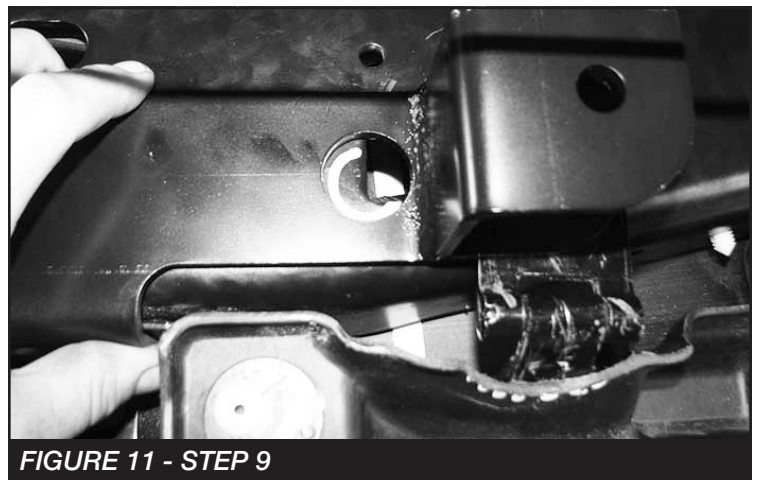
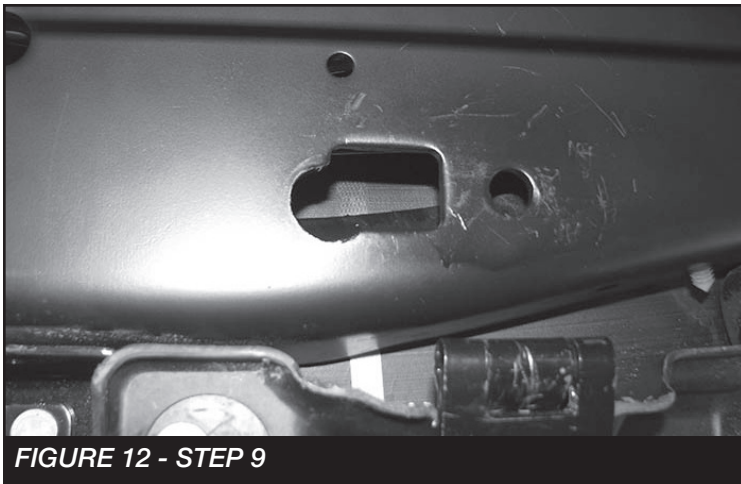

FIGURE 11 - STEP 9
FIGURE 12 - STEP 9
9. Using 1 of the factory bolts install FT30632BK (Driver frame bracket) and mark the hole **SEE FIGURE 11**. Remove the bracket. Using a barrel sander or carbide bit open up the hole. **SEE FIGURE 12**.
12. Measuring from the body mount towards the rear of the vehicle. Measure 13-1/2" and mark. **SEE FIGURE 12**